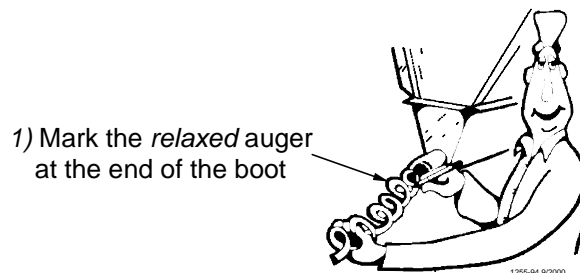

Figure 33. Measure the Auger from the relaxed position
10. Pull the auger at the boot end until it begins stretching. Then let it relax. In the *relaxed* position, mark the auger at the end of the boot. See **Figure 33**.